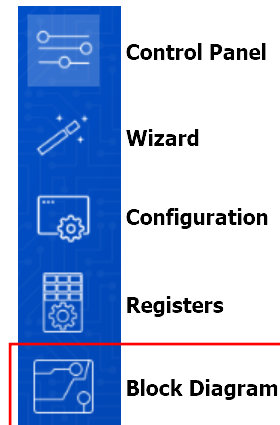

Figure 15. RICBox GUI Menu Buttons
6. Click *Finish* and then the Block Diagram logo at side panel to go straight to the Block Diagram (see Figure 15).